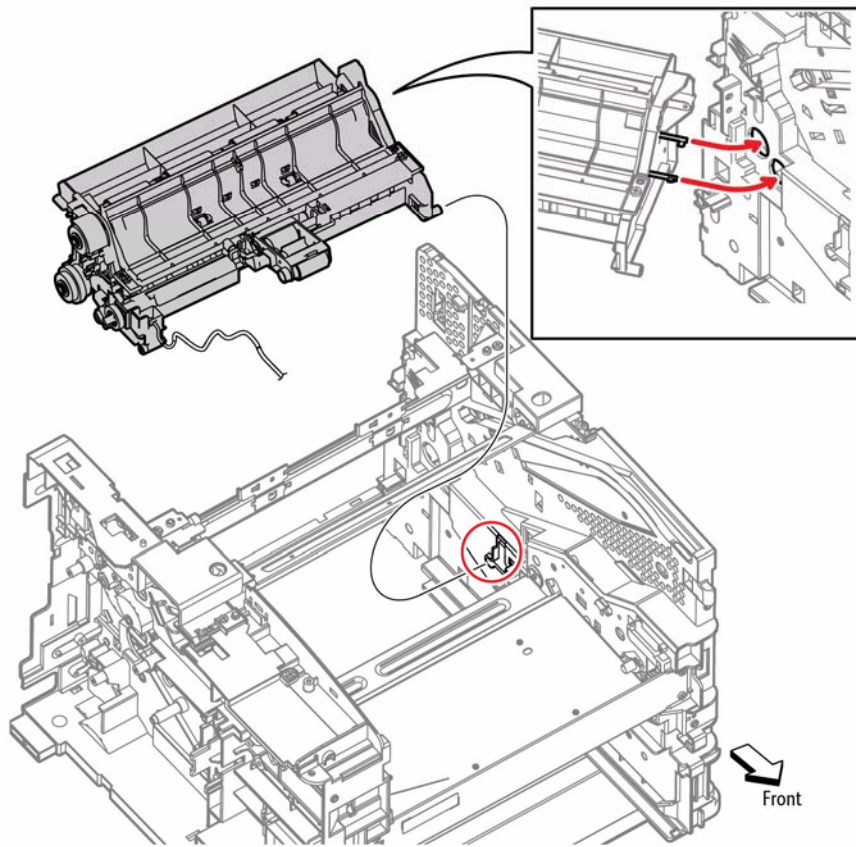

Figure 6 Install the Transport Assembly
1. Refer to Figure 6 to locate the registration actuator openings in the chassis. Carefully inset the actuators into the openings during installation. Seat the Transport Assembly boss on the chassis support as shown.